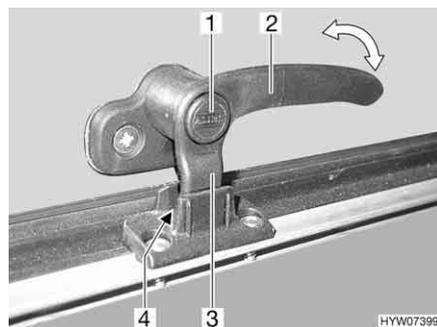
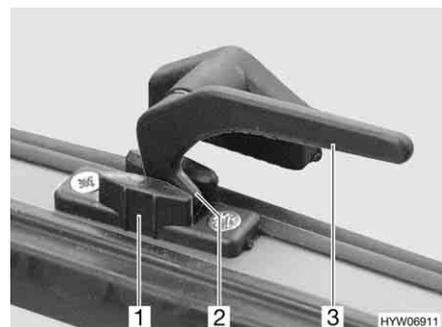

Fig. 51 Catch lever with safety knob in "continuous ventilation" position
Fig. 52 Catch lever in "continuous ventilation" position
- "Continuous ventilation" (Fig. 51 and Fig. 52)
- Press and hold the security button (Fig. 51,1), if present.
- Turn the catch lever (Fig. 51,2 or Fig. 52,3) a quarter turn towards the centre of the window.
- Return the catch lever to its initial position. Move the locking catch (Fig. 51,3 or Fig. 52,2) on the catch lever into the recess of the window catch (Fig. 51,4 or Fig. 52,1).